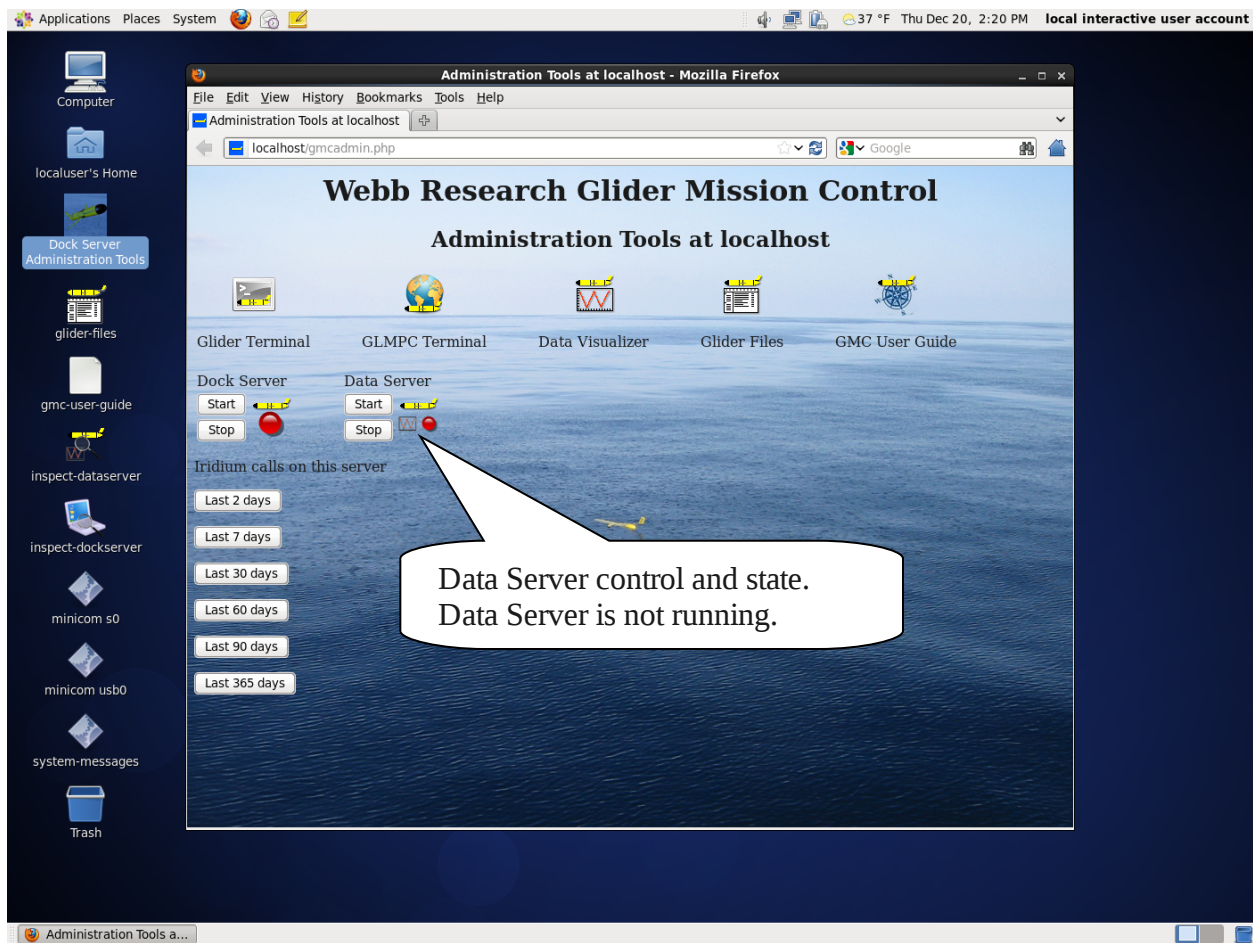

Figure 9-1. Browser window showing Data Server is not running.
A browser window opens that shows the Dock Server administration tools interface (Figure 9-1). Under the "Data Server" heading, a glider icon above a graph and colored circle shows the Data Server application state. A red circle means the application is not running; a green circle indicates it is running.
A browser window opens that shows the Dock Server administration tools interface (Figure 9-1). Under the “Data Server” heading, a glider icon above a graph and colored circle shows the Data Server application state. A red circle means the application is not running; a green circle indicates it is running.
3. To stop Data Server, click the “Stop” button under the “Data Server” heading. Once Data Server stops, the state icon turns red (Figure 9-1).